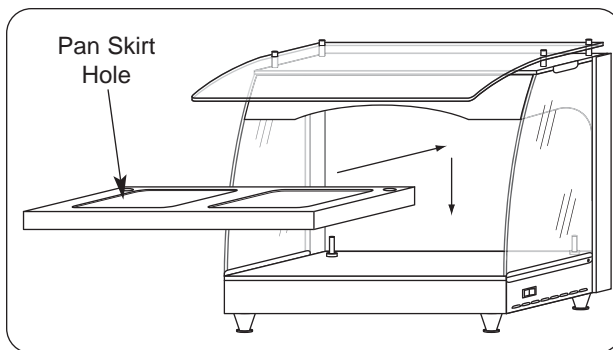

Figure 7. Installing Pan Skirt
Installing the Pan Skirt (See Figure 7)
3. To re-install, position the two holes on the pan skirt over the base pins located at the rear, inside of the unit. (See Figure 7.)